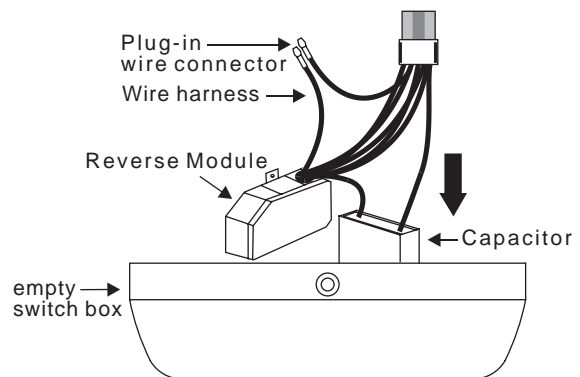

**Figure 18**
Step 1. Remove the 2 screws from the light cover from the top decorative housing as shown in Figure 18.